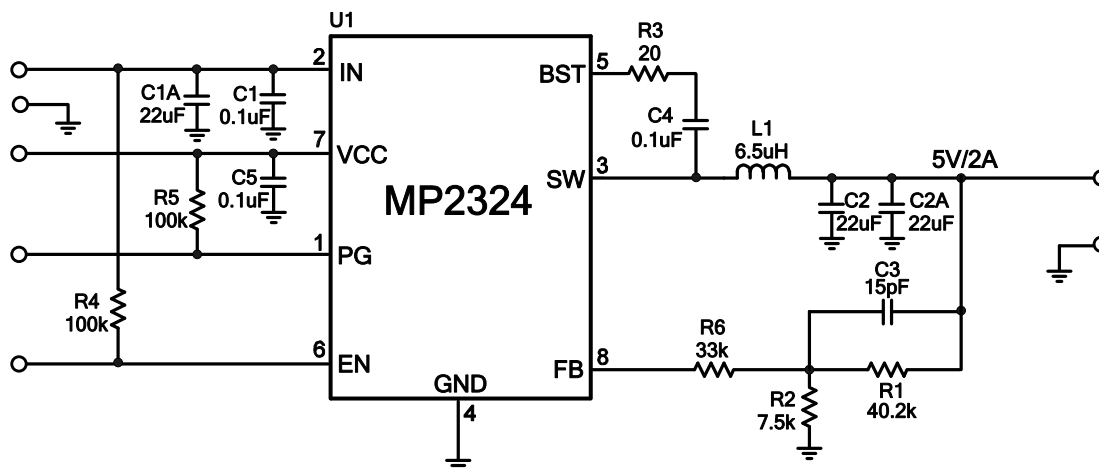

Figure 8:  $V_o=5V$ ,  $I_o=2A$
- 6) The recommended layout is based on the Figure 8 Typical Application circuit on the next page.
The detailed application schematics are shown in Figures 8 through 13. The typical performance and circuit waveforms have been shown in the Typical Performance Characteristics section. For more device applications, please refer to the related Evaluation Board Datasheets.